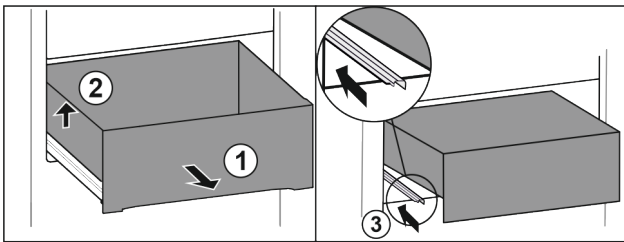

Fig. 21
- ▶ Pull out drawer as far as it will go. Fig. 21 (1)
- ▶ Lift drawer on the left. Fig. 21 (2)
- ▶ Insert left rail. Fig. 21 (3)